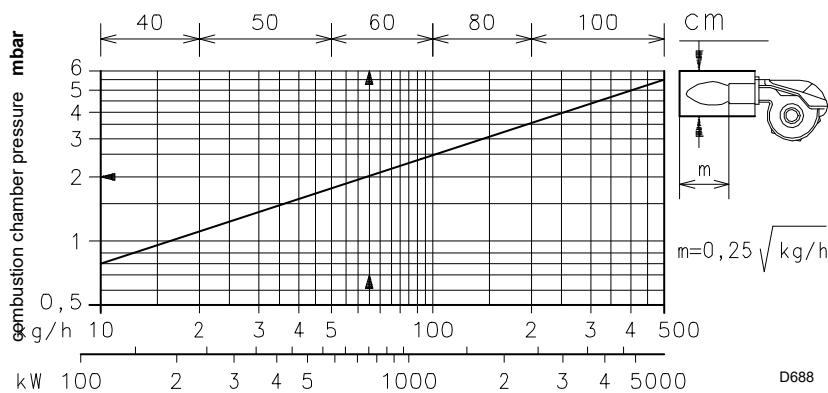

Fig. 4
4.4.1 Test boiler (Fig. 4)
Fig. 4 indicates the diameter and length of the test combustion chamber.